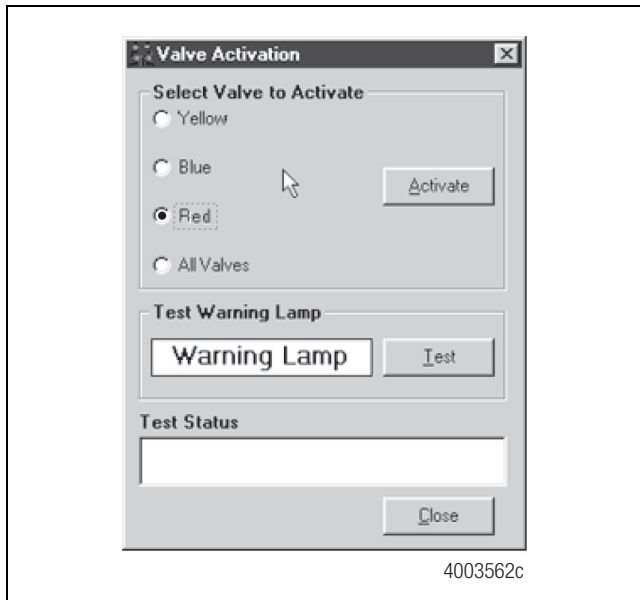

Figure 32
4. At the **Trailer Main Screen**, click on **Component Test**, then select **Valves/Lamp** to display the **Valve Activation Screen**. The **Yellow** valve indicator will be highlighted. Figure 32.
8. Click on the **Test** button to activate the ABS indicator lamp — this is the lamp that is mounted on the side of the trailer. The lamp will flash eight times, indicating lamp installation is OK. The **Test Status** box at the bottom of the menu will display the status of this test. Figure 32.